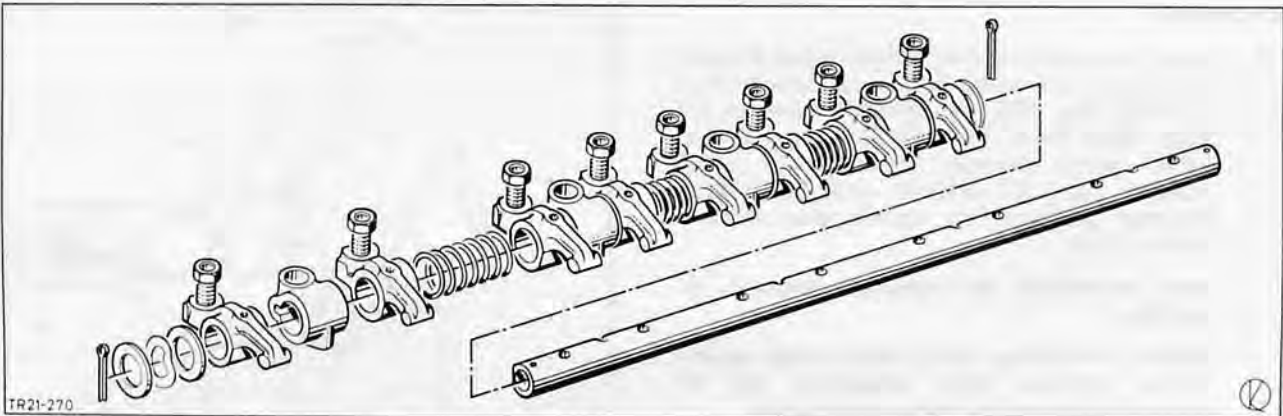

Fig. 192. Rocker shaft dismantled
4. Assemble rocker shaft as shown in Fig. 192, first lubricating rocker shaft and rocker arm bearing faces with hypoid oil SQM-2C-9002-AA.